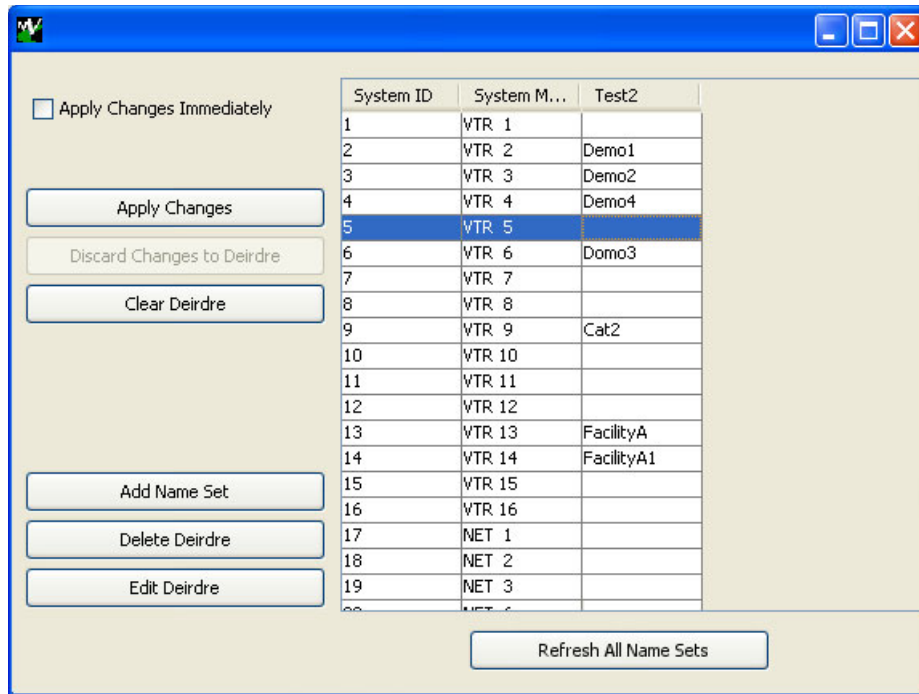

Figure 17-4. Name Sets Window
- 3 Right-click on the system controller you are currently working with and from the pop-up menu select 'Edit Name Sets'. The 'Name Sets' window appears, as shown in Figure 17-4. All name sets currently defined in the system are listed.